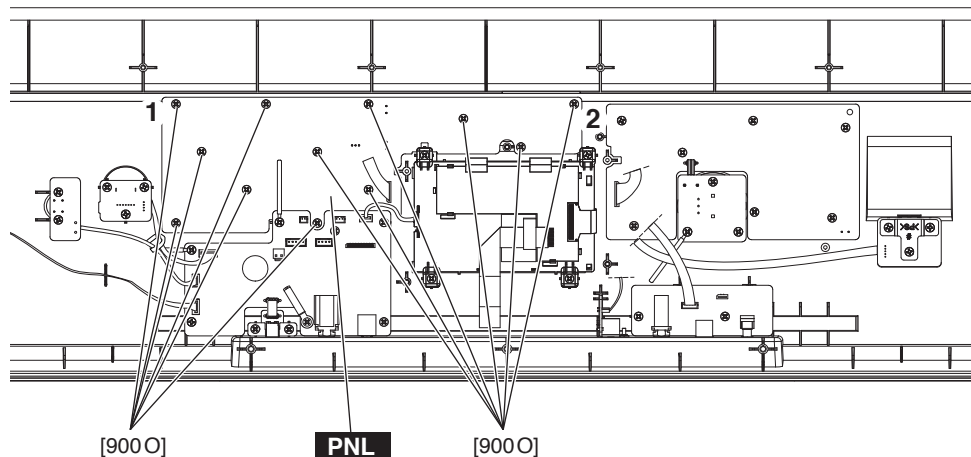

Fig.4
- 4-4 Remove the twelve (12) screws marked [900O]. The PNL circuit board can then be removed. (Fig.4)
* *When the PNL circuit board is assembled, tighten the screws marked [900O] in the order of 1, 2 and the remaining screws. (Fig.4)*